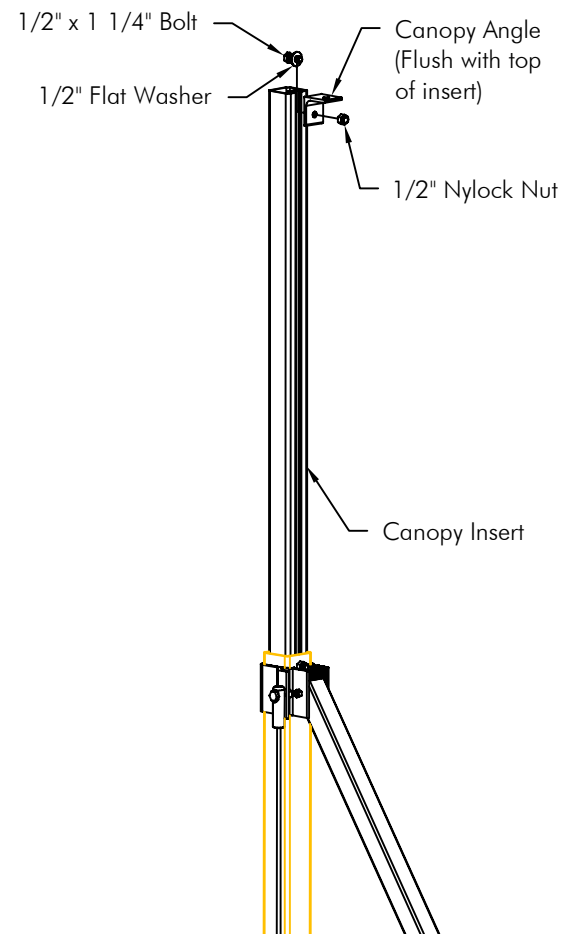

Fig. 1C
2. Attach the aluminum angles flush with the top of the canopy insert. The 1/2" x 1 1/4" bolt and flat washer are inserted into the track. Torque 1/2" nylock nut to 60 ft/lbs. See Fig. 1C.